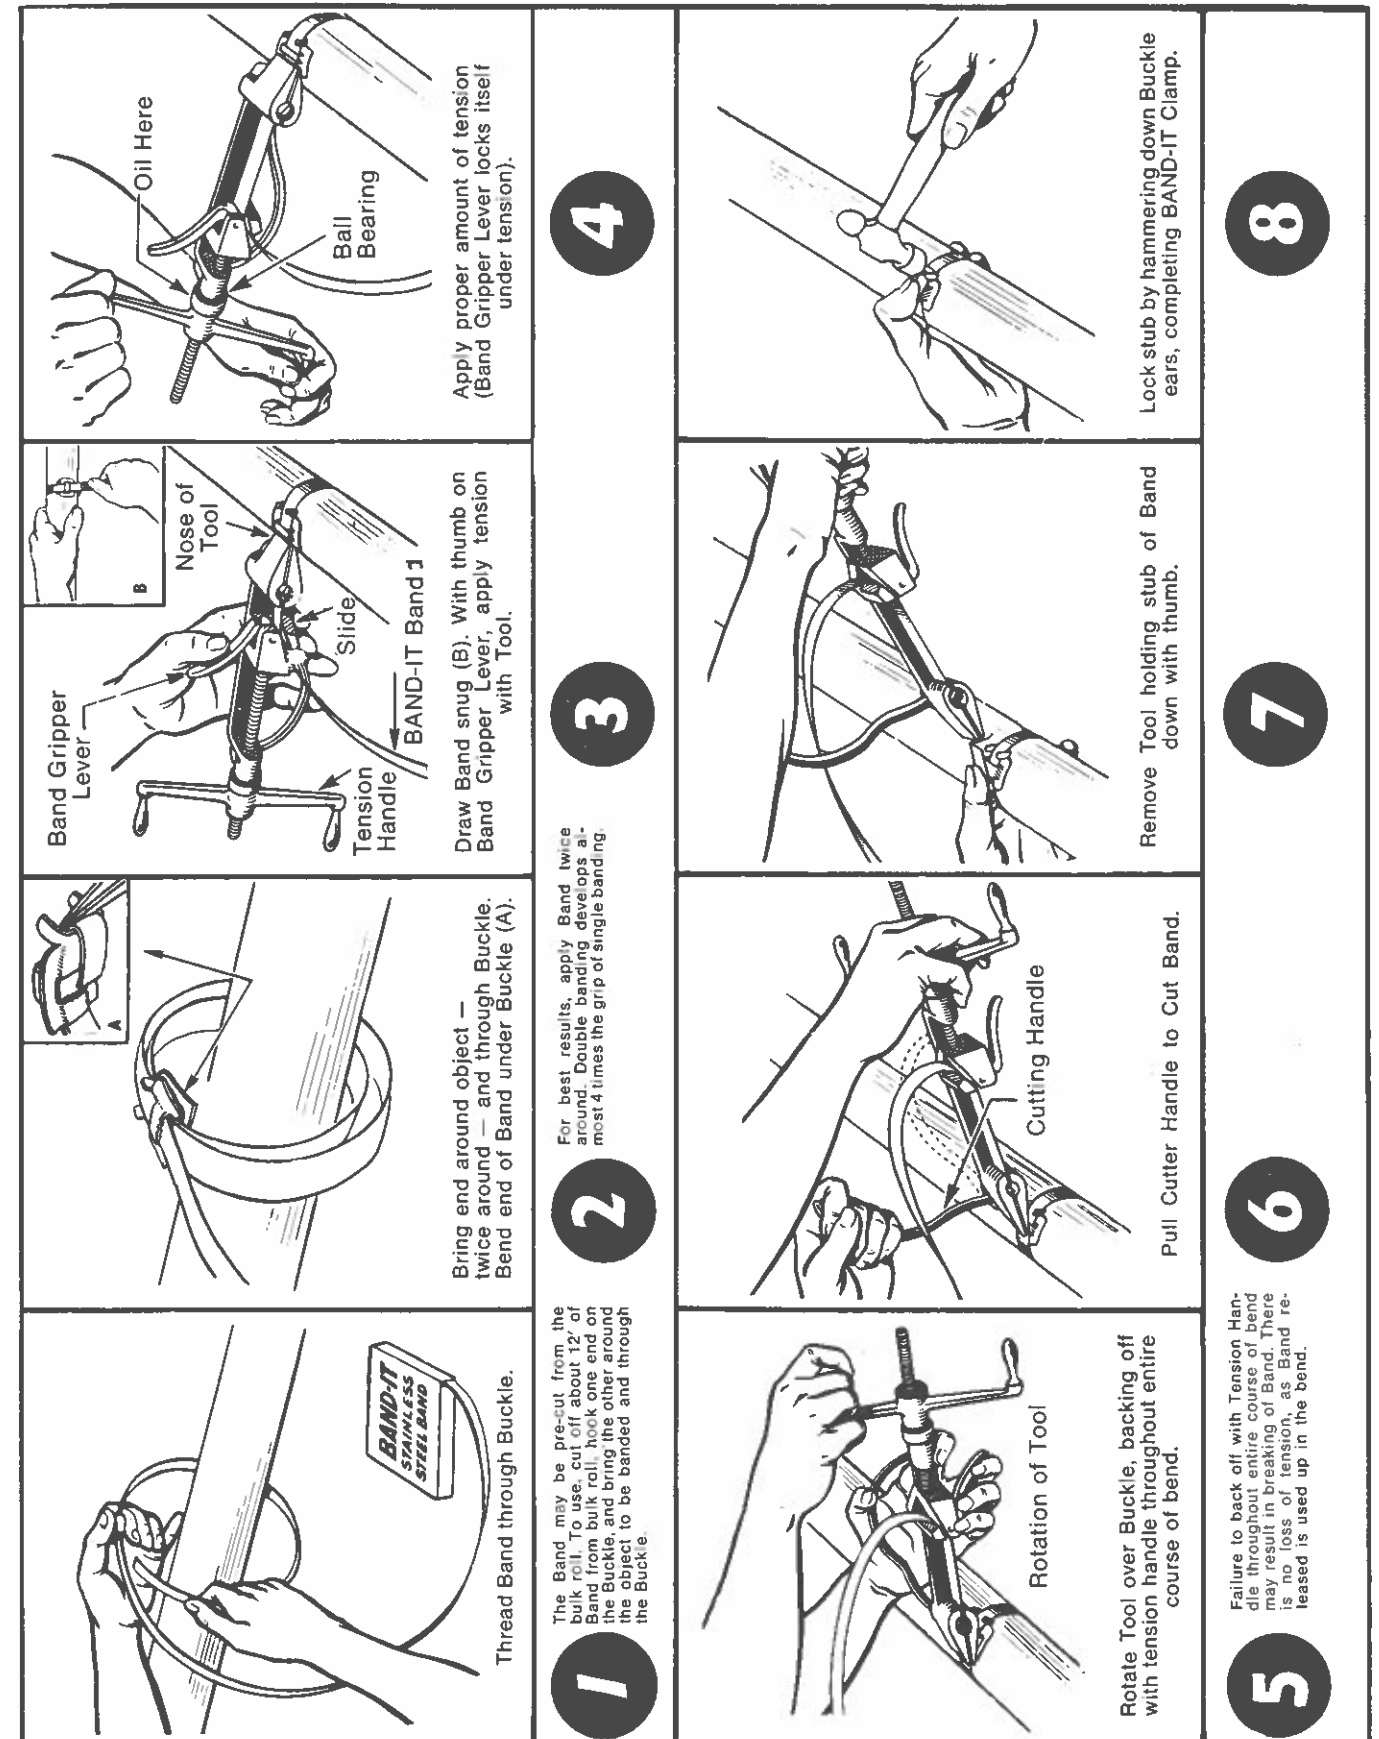

Figure 19 — Use of BAND-IT Tool
8. Use "BAND-IT" or equal stainless steel bands and buckles to fasten the cable assembly to the pump bowls and discharge column. Instructions for use of "BAND-IT" materials and tools are shown in Figure 19, page 13.